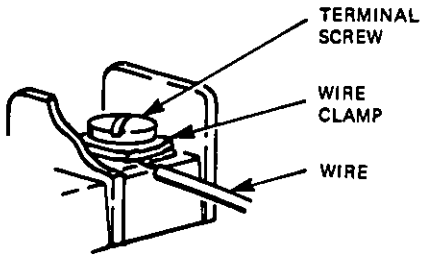

Figure 5.
- When connecting wires to terminals C1, C2, L1, and L2, insert wire into clamp as shown in Figure 5. Then tighten terminal screw.